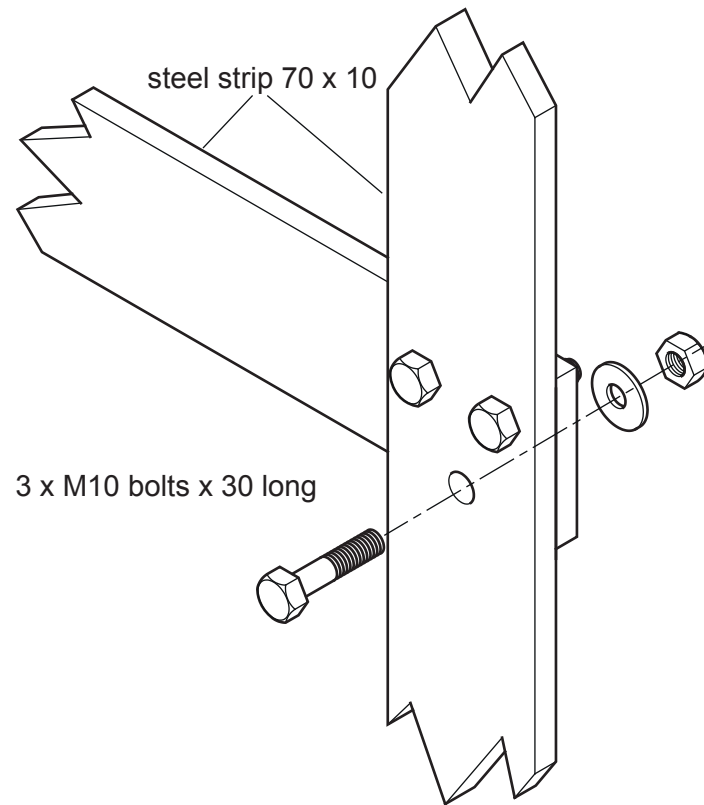

Fig. 10.2
- (b) Fig. 10.2 shows part of a structure that has been joined using three bolts and nuts.